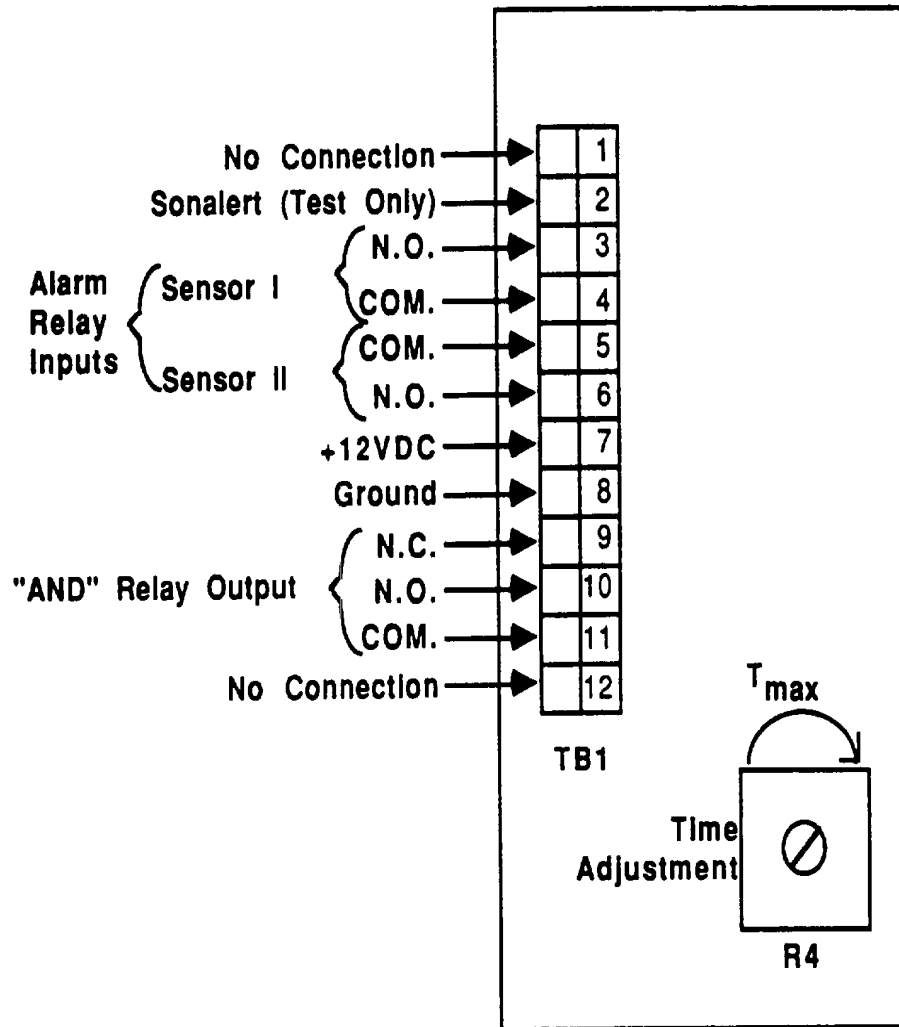

Figure A-1. AND Gate Module
3. Wire NO and COM alarm relay inputs as shown in Figure A-1.